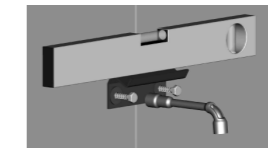

Fig.8
用胀塞(8)、垫片(9)和螺钉(11)安装托架(12)。用水平尺找平托架(参照Fig.8)，用扳手锁紧螺钉以固定托架。
Mount the wall fixture bracket(12) by anchors(8), washers(9), screws(11). Make sure the bracket level and secure. Refer to Fig.8.